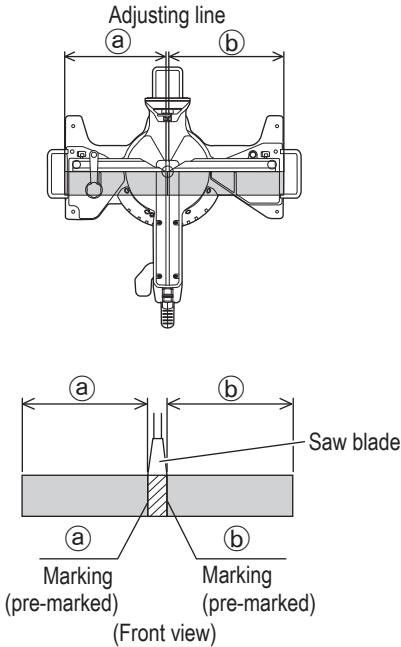

Fig. 25
- (1) As shown in Fig. 25 the width of the saw blade is the width of the cut. Therefore, slide the workpiece to the right (viewed from the operator's position) when length ⑥ is desired, or to the left when length ⑤ is desired. Use the LED light, project the shadow of the blade onto the workpiece, align the left side or right side of shadow of the blade with the ink line on the workpiece.